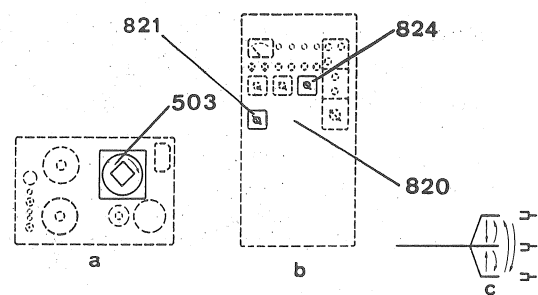

Fig 22
5. Switch power on by means of the main switch (821) and start the pump (503) of the dielectric circuit (fig. 22 a & b) by means of its switch (824) which is located on the control panel (820) of the generator (fig. 22 b). Check, immediately, that the pump is rotating in the direction indicated by the arrow on the pump housing. If the direction of rotation is that indicated, let the pump operate for a few moments. If the pump is rotating in the reverse direction, immediately stop the pump and switch two of the 3-phase leads of the mains power line (fig. 22 c).